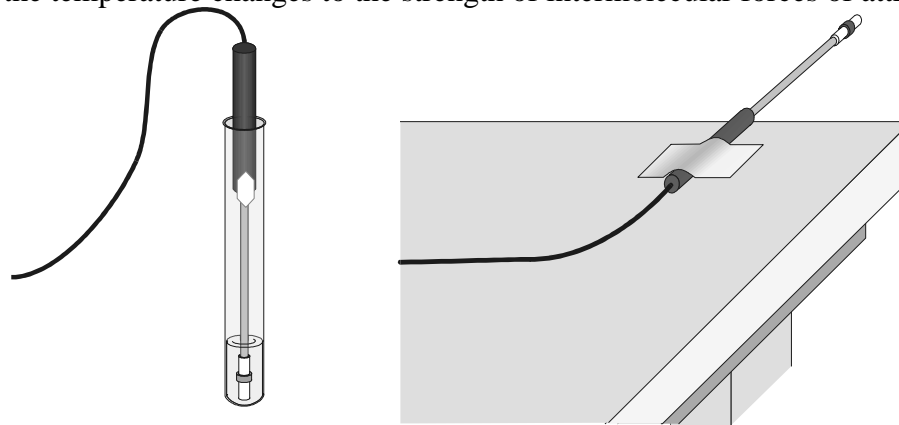

Figure 1
3. Wrap Probe 1 and Probe 2 with square pieces of filter paper secured by small rubber bands as shown in Figure 1. Roll the filter paper around the probe tip in the shape of a cylinder. Hint: First slip the rubber band up on the probe, wrap the paper around the probe, and then finally slip the rubber band over the wrapped paper. The paper should be even with the probe end.
6. After the probes have been in the liquids for at least 30 seconds, begin data collection by clicking . Monitor the temperature for 15 seconds to establish the initial temperature of each liquid. Then simultaneously remove the probes from the liquids and tape them so the probe tips extend 5 cm over the edge of the table top as shown in Figure 1.